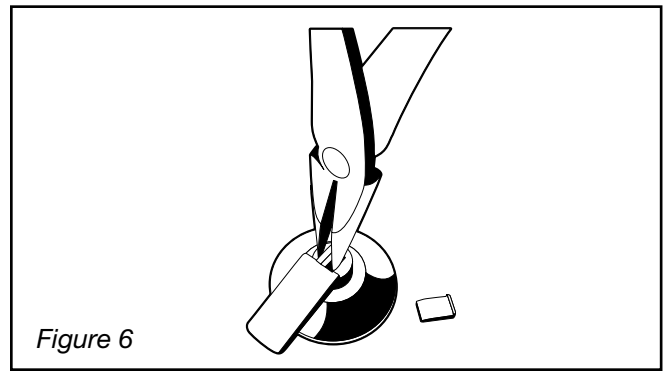

Figure 6
7. Slide the lock cylinder through the front of the door. See Figure 6.